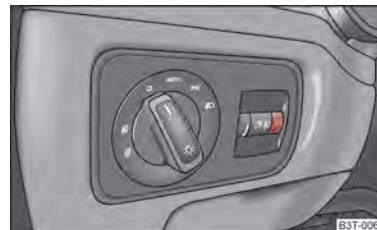

Fig. 38 Dash panel: Lights and Visibility
- Turn the control dial → fig. 38 until you have adjusted the low beam so that oncoming traffic is not dazzled.